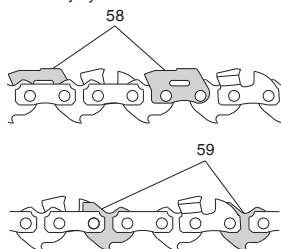

Fig. 42
- Do not smoothen the upper part of the guard tie straps (58) or bumper drive links (59) with a file or deform them. (Fig. 42)